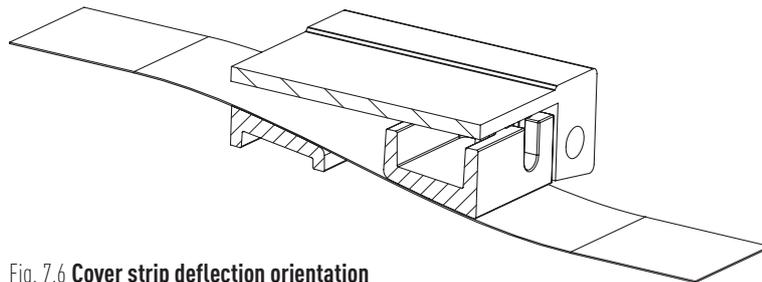

Fig. 7.6 Cover strip deflection orientation
- ▶ Thread the cover strip deflection onto the cover strip at both ends of the carriage. Make sure that the cover strip deflection is correctly oriented as shown in Fig. 7.6.